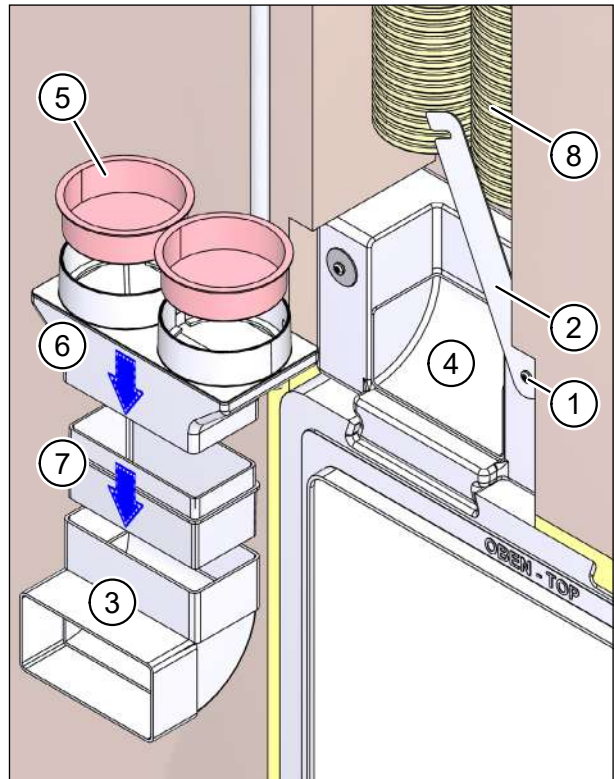

Fig. 27: Joining flexible pipe connectors and cutting flexible pipes to length
- ▶ Loosen the two cross-head screws (item 1 in Fig. 27) and lift up the bar catch (item 2 in Fig. 27).
- ▶ Remove the flat ductwork bend (item 3 in Fig. 27) from the ductwork connection adapter (item 4 in Fig. 27).
- ▶ Remove the red protective cover (item 5 in Fig. 27) from the flexible pipe adapter (item 6 in Fig. 27) M-WRG-FRA75 (part no. 5056-00/75).
- ▶ Insert the fitting adapter M-WRG-FSA lang, part no. 5375-00 (item 7 in Fig. 27) into the flat ductwork bend (item 3 in Fig. 27).
Make sure that you insert the fitting adapter so that the short side points up (see item 7 in Fig. 27).
- ▶ Attach the flexible pipe adapter (item 6 in Fig. 27) to the fitting adapter (item 7 in Fig. 27) and seal the join with a layer of sealing tape 30 mm wide.
- ▶ Insert the assembled flexible pipe connectors (items 3, 6 and 7 in Fig. 27) into the ductwork connection adapter (item 4 in Fig. 27) to test the fit.
- ▶ Shorten the flexible pipes (item 8 in Fig. 27) so that they can be inserted into the flexible pipe adapter (item 6 in Fig. 27).